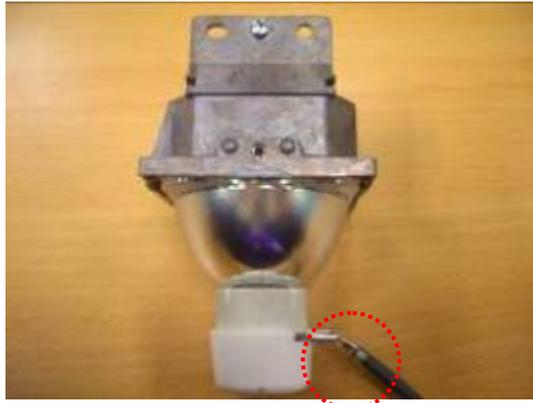

Fig. 1-12
- II. Bending Angle have to face to backside of Lamp(Figure 1-12)